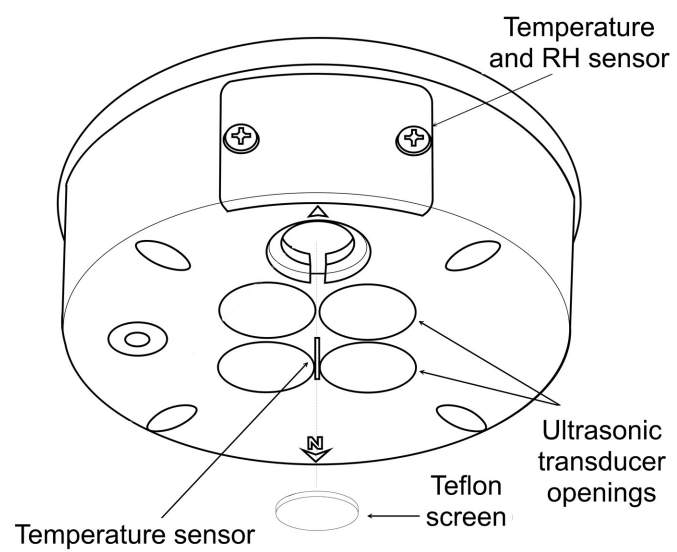
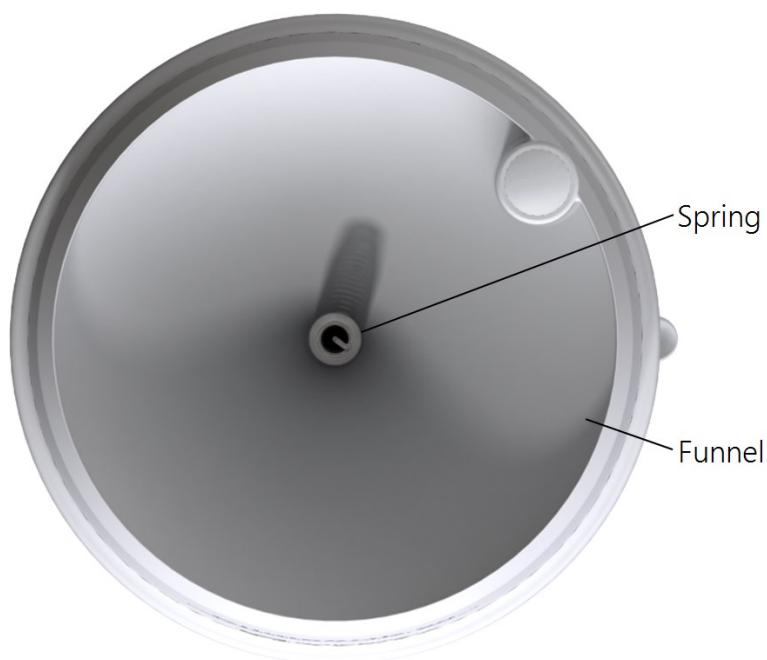
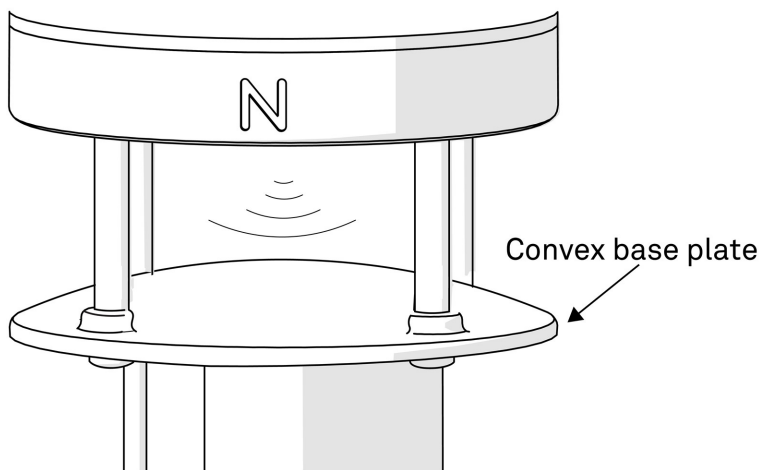

Figure 8-1. Temperature sensor and ultrasonic transducer openings
Figure 8-2. Top view of Climavue 40
Figure 8-3. Convex base plate
1. Remove cobwebs, leaves, bird droppings, wasp nests, or other debris from the temperature sensor (Figure 8-1 [p. 22]), ultrasonic transducer openings (Figure 8-1 [p. 22]), rain gauge funnel (Figure 8-2 [p. 22]), and plate (Figure 8-3 [p. 23]).
Gently clean the sonic transducers and do not allow water to enter the ultrasonic sensors (Figure 8-1 [p. 22]). Water may corrode the metal parts inside the sensors and ruin them.
4. Inspect the Teflon screen (Figure 8-1 [p. 22]) and replace if dirty.
3. Check that the plate (Figure 8-3 [p. 23]) is not dirty.